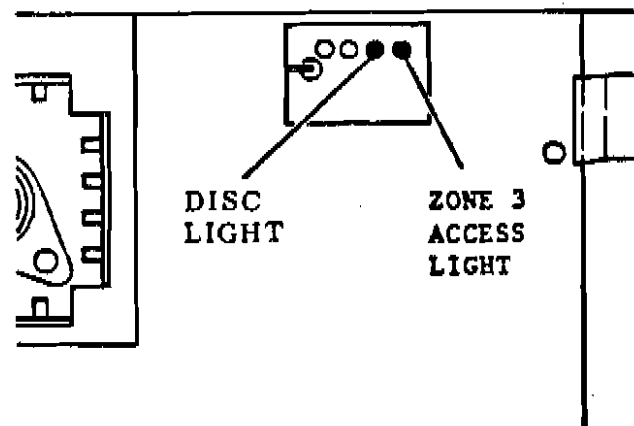

Figure 2-5. Controller PCB
Press DISC ON/OFF - two beeps are heard and the third LED on the Controller PCB will light indicating that the discount is on, see Figure 2-5. To terminate discount, press DISC ON/OFF again - 1 beep is heard.
- . The status of Zone 3 Access is ON when the fourth LED on the Controller PCB is lit. See Figure 2-5.